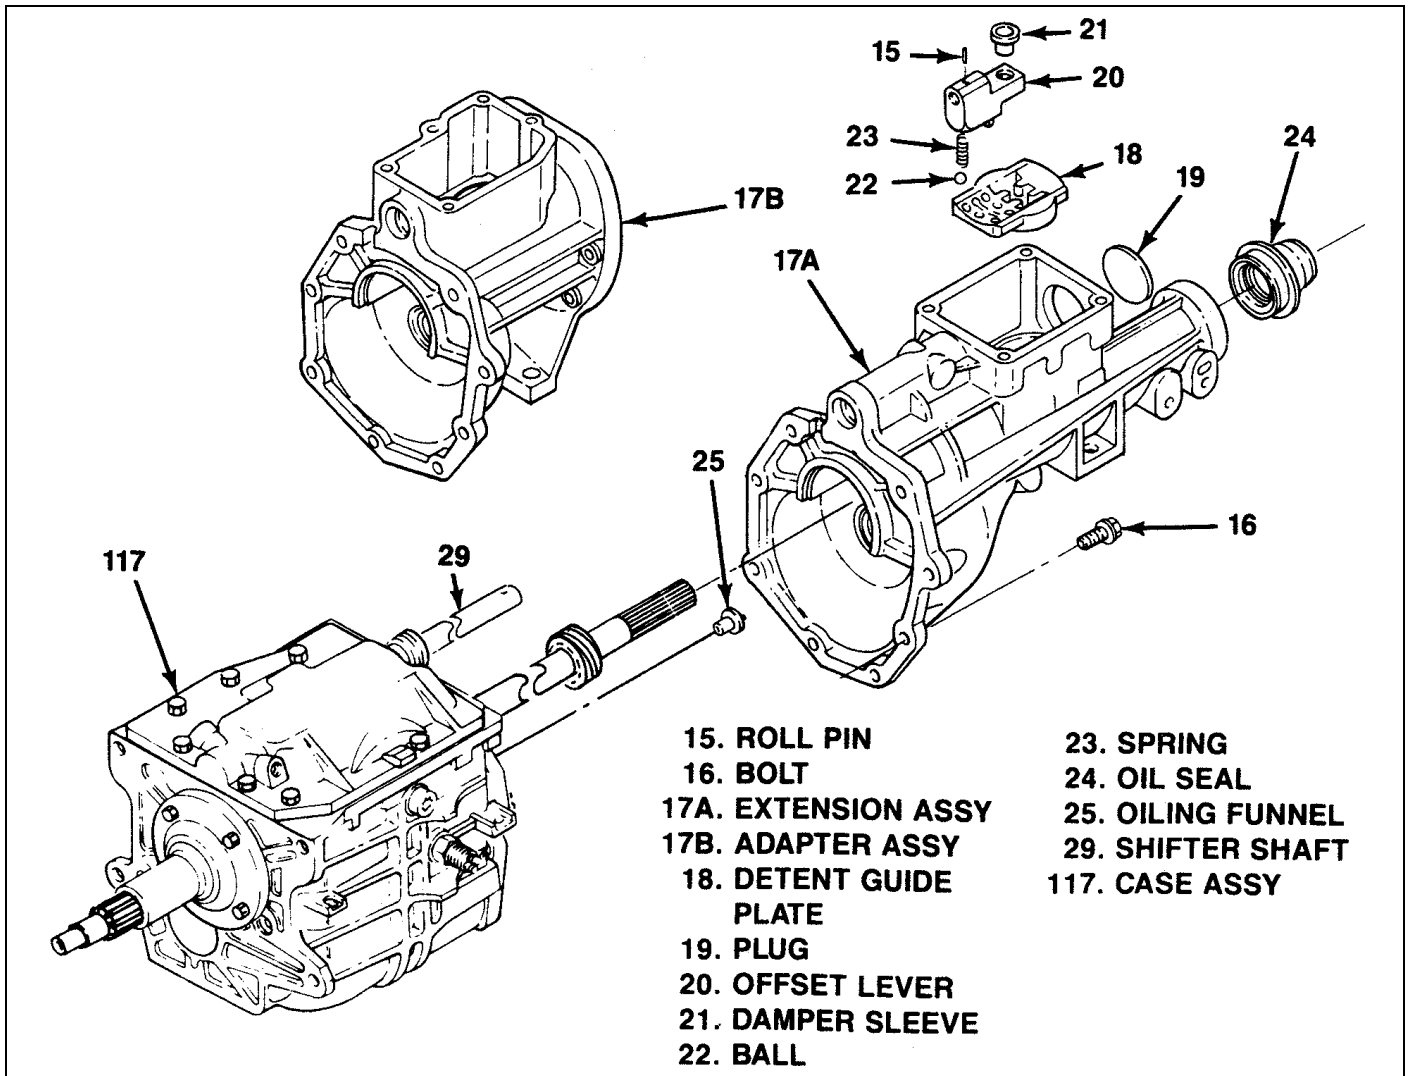
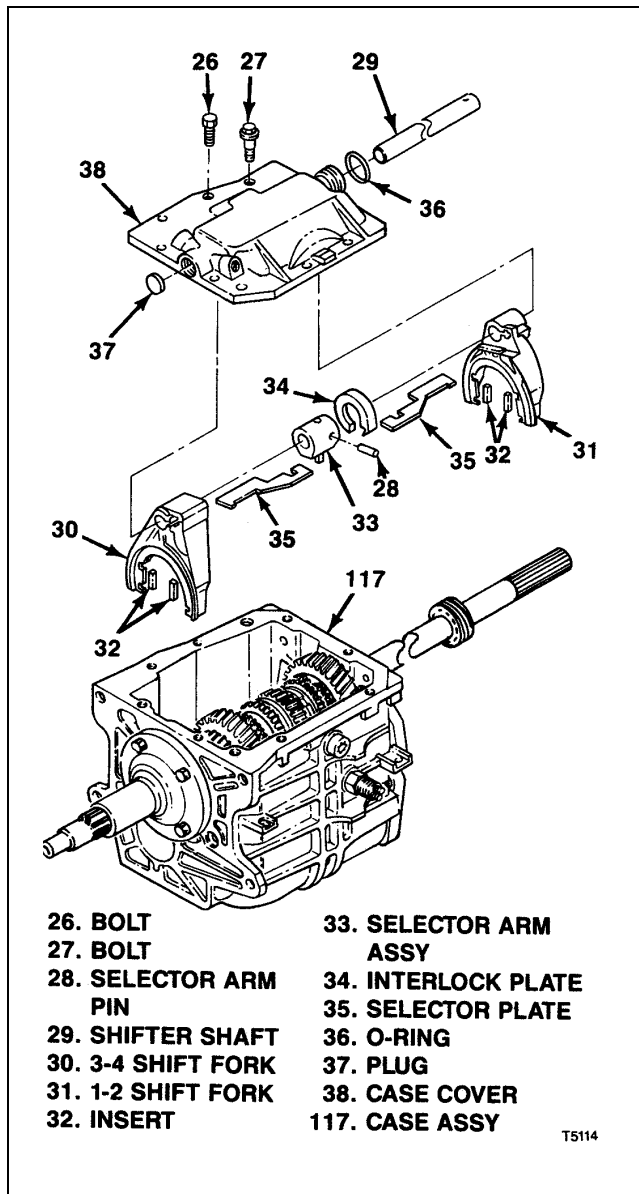

Figure 3-3. T5 WC Extension or Adapter
Figure 3-4. T5 WC Case Cover
**3-9. REMOVAL OF T5 WC EXTENSION OR ADAPTER.** With offset lever accessible and in neutral at 3-4 position (paragraph 3-7, step b), proceed as follows (see figure 3-3):
- a. Using suitable drift, drive roll pin (15) into offset lever (20) and out of engagement with shifter shaft (29). Tap drift with hammer just until offset lever feels free on shaft.
- b. Remove bolts (16).
- c. If necessary, use suitable knife to break sealant bond between extension or adapter (17A or 17B) and transmission case (117). Pull extension or adapter straight out from transmission case. Offset lever (20) will slide off shifter shaft (29) with extension or adapter.
- d. Remove offset lever (20), damper sleeve (21), spring (23), ball (22) and oil seal (24) from extension (17A) or adapter (17B). Remove roll pin (15) if loose or drive out of offset lever (20) if still partially installed. Do not remove detent guide plate (18) or plug (19).
- e. Remove oiling funnel (25).
**3-10. REMOVAL OF T5 WC CASE COVER AND DISASSEMBLY OF SHIFT FORKS.** With transmission assembly upright, proceed as follows (see figure 3-4):
- b. If necessary, use suitable knife to break sealant bond between case cover (38) and transmission case (117). Move case cover and attached parts toward drain plug side of transmission approximately one inch, then lift straight up.
- c. Drive out pin (28).
- d. Slide out shifter shaft (29), freeing shift forks (30 and 31), selector arm assembly (33), interlock plate (34) and selector plates (35) from case cover (38).
- e. Remove inserts (32) from shift forks (30 and 31).
- f. Remove o-ring (36) from case cover (38) but not plug (37).